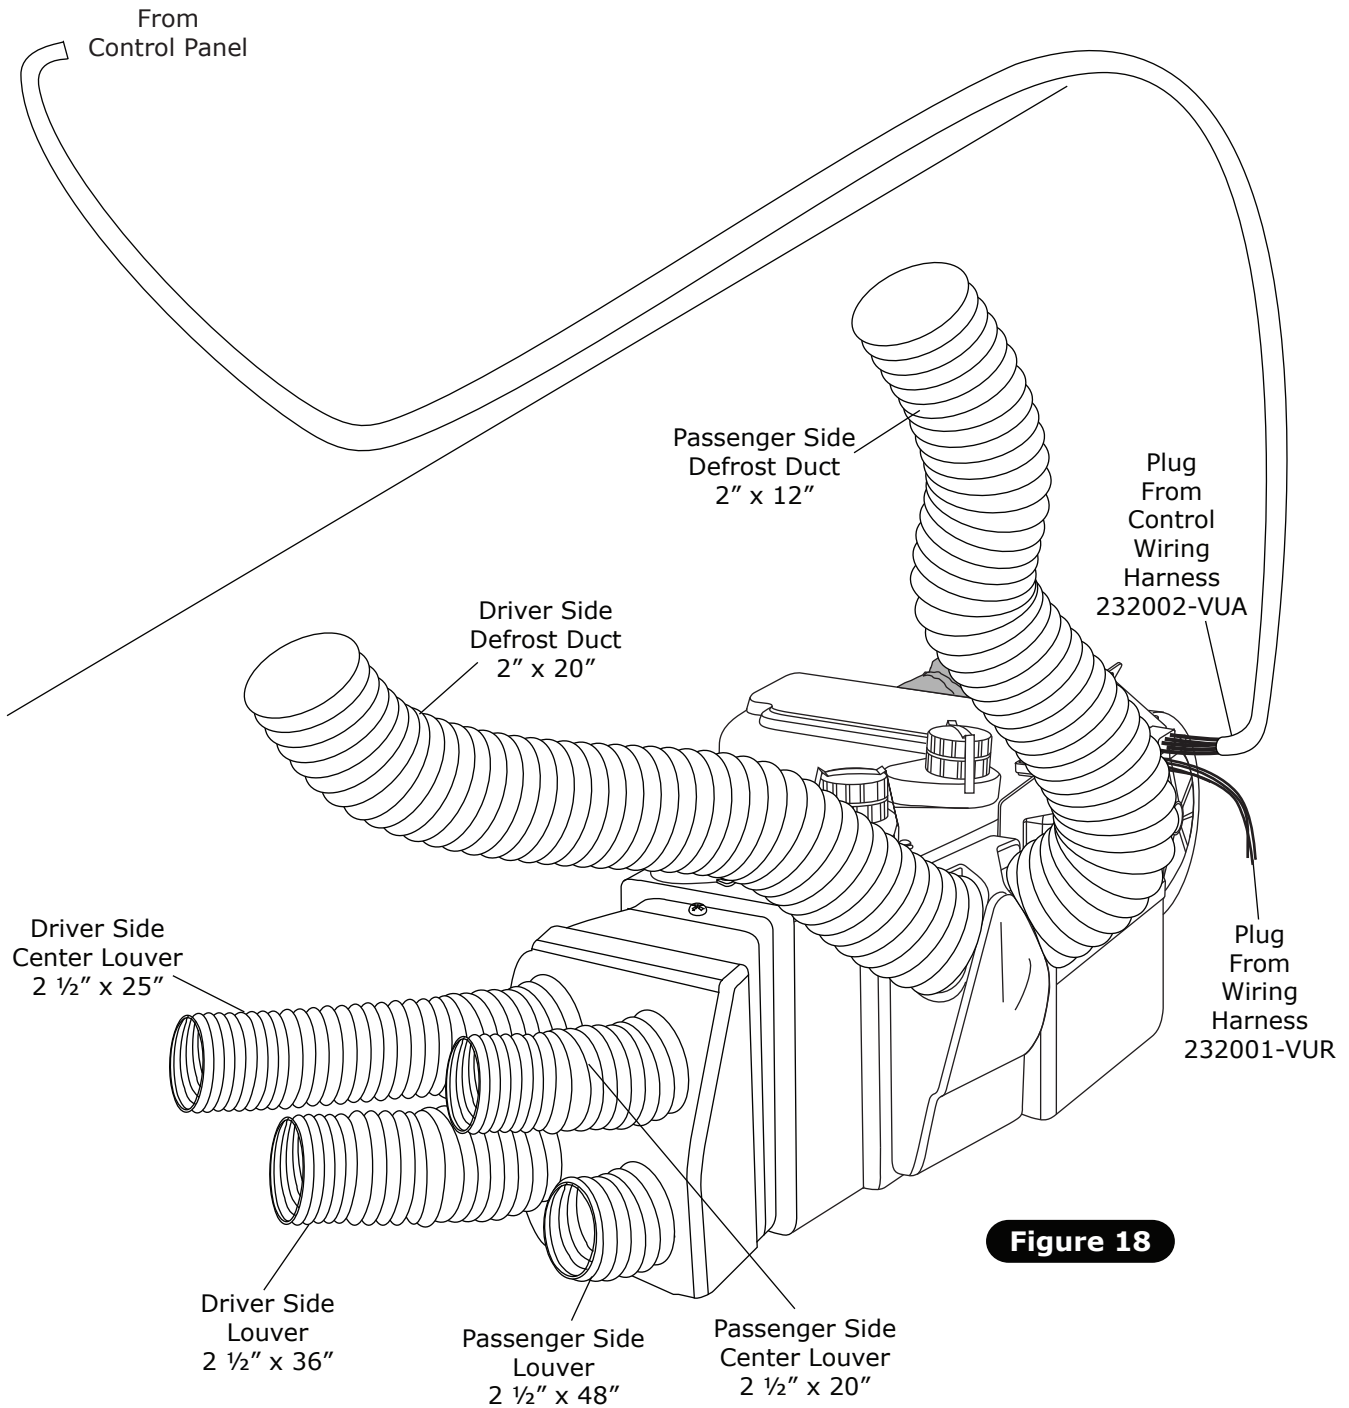

Figure 18
1. Install duct hoses as shown in Figure 18, Page 17.
4. Plug the wiring harnesses into the ECU module on the sub case (See Figure 18, Page 17). Wire according to wiring diagrams on Pages 18 and 19.